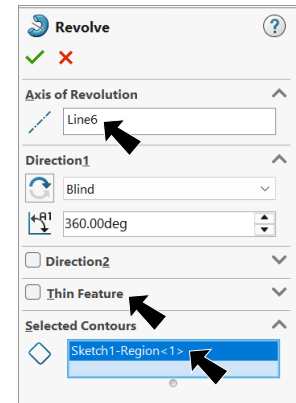

Fig. 8
- under Axis of Revolution  centerline is selected, **Fig. 8**